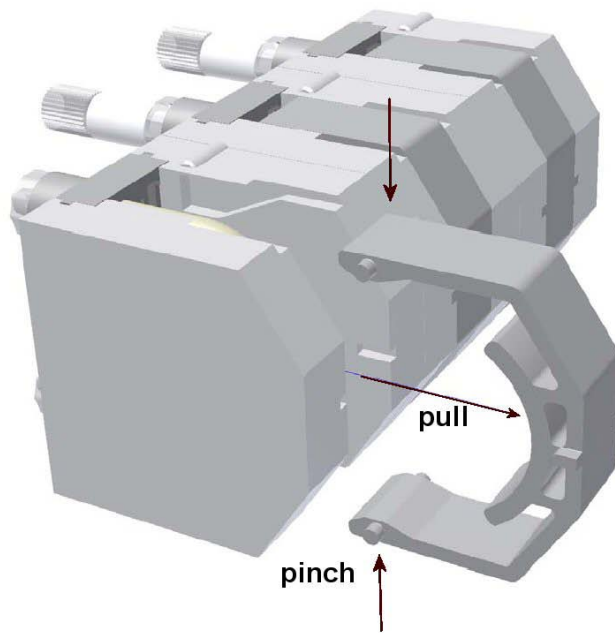

Figure 2-2
3. Pinch and pull the tube shoe, to remove it (figure 2-2).